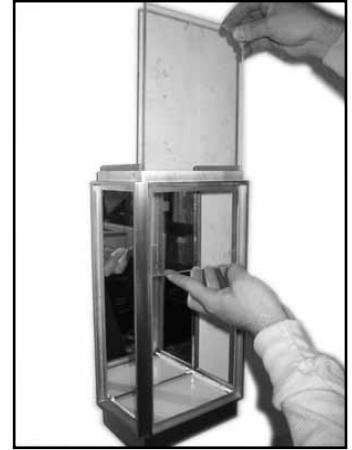

Figure 8
Step 10 Locate the large glass panel and install first. Orient the panel to the front of the housing frame and carefully lower into position. (Fig 8)